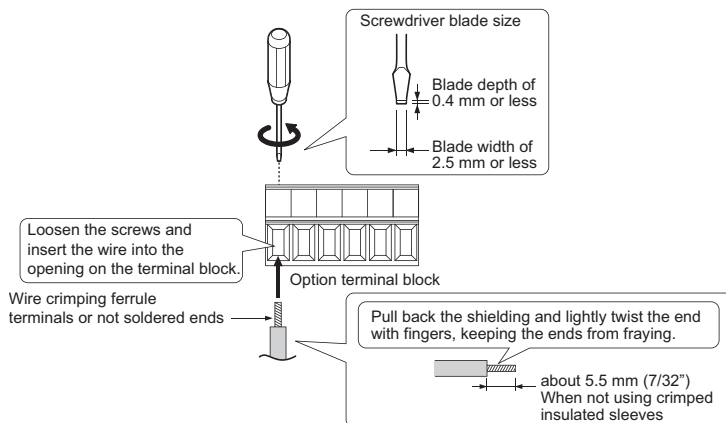

Figure 17 Connect Cable Wiring
5. Wire the motor PG encoder to the terminal block on the option according to **Figure 17**.